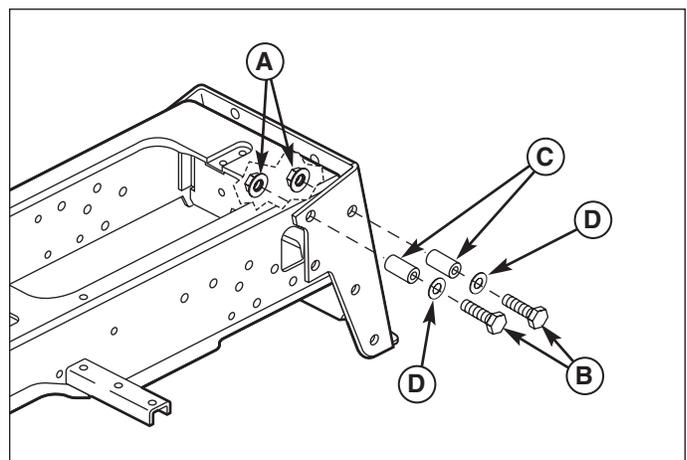

Figure 3. Install Rear Spacers
1. Install the rear spacers (C, Figure 3). Secure with two 1/2-13 x 2-1/2 capscREWS (E), washers (D), spacers (C), and 1/2-13 nylock nuts (A) per side.